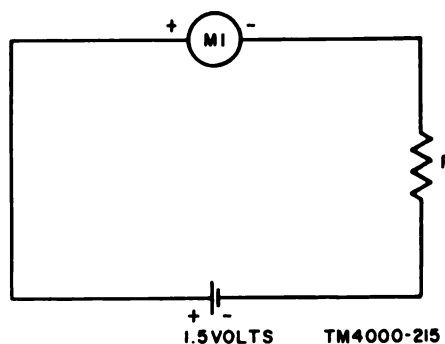
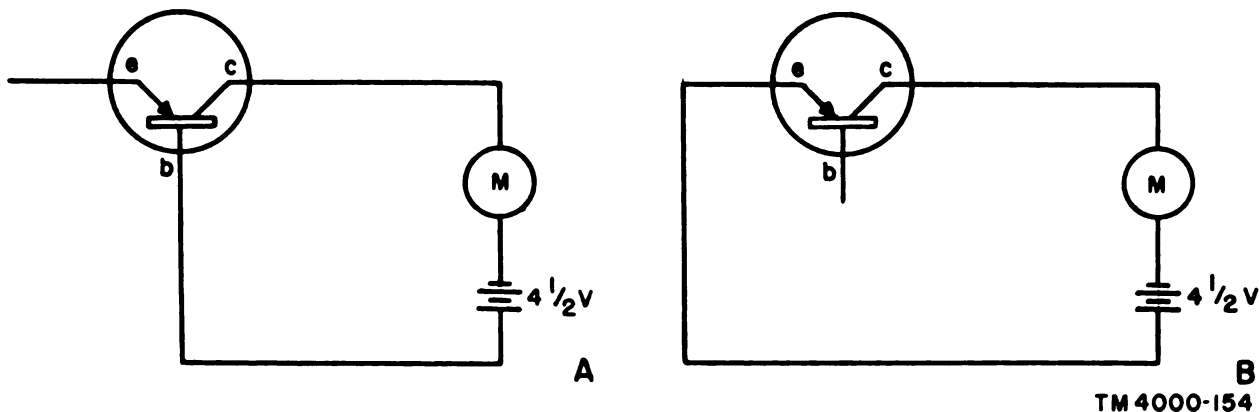
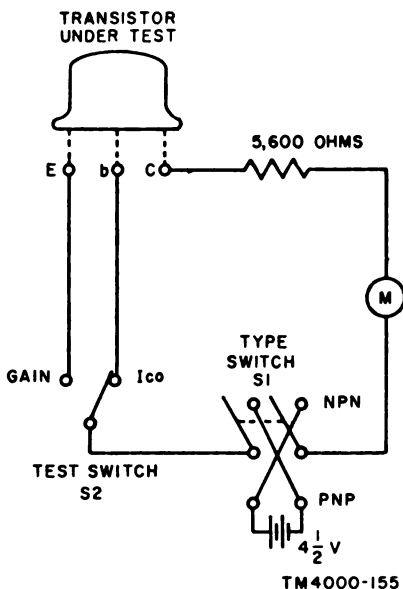

Figure 111. Meter test setup.
Figure 118. Testing transistor characteristics.
Figure 119. Field test circuit.
f. Indicating Meters. The indicating meters used in radiac sets are usually microammeters with 20 to 50 microampere (μa) full-scale deflection. Because of the low permissible current, the continuity of these meters cannot be tested with an ohmmeter; the meter movement would be burned out. Refer to the circuit shown in figure 111. Find the value of resistor R by dividing 1.5 volts by $\frac{1}{2}$ the full-scale deflection current of the meter to be tested. For example, for a $20\text{-}\mu\text{a}$ meter the value of $R = 1.5/10 \times 10^{-6} = 1.5 \times 10^5$ or 150,000 ohms. For a $50\text{-}\mu\text{a}$ meter the value of R should be 60,000 ohms. When used in such a circuit, a good meter will
- (1) To obtain an indication of the I_{co} of a PNP transistor, connect the meter and battery to the collector-base circuit with the emitter circuit open (A, fig. 118). The meter will indicate the I_{co} which should be as stated in b(2) below.
- (2) To obtain an indication of the current gain of a PNP transistor, connect the battery and meter to the emitter-collector circuit with the base circuit open (B, fig. 118). The meter should indicate a current from 20 to 40 times greater than I_{co} obtained in (1) above.
- (3) To obtain these readings for NPN transistors, reconnect the battery so as to reverse its polarity in the circuit.
b. If parts listed below are available or obtainable, the circuit shown in figure 111 can be used to perform both tests outlined in a above plus the test used to determine the type of transistor outlined in paragraph 321a(3). After constructing the tester, label the switches and switch positions as shown in figure 119.
- (1) Set the meter to the 2.5 ma current scale. Set test switch, S2, to the I_{co} position and insert the transistor into the socket (or connect the transistor leads to the proper terminals as shown in (fig. 119)).
- (2) Set type switch, S1, to the position (NPN or PNP) that correspond to the type of transistor under test and note the reading on the meter. If the meter reading is above .250 ma (except for power transistors), the transistor is considered defective. If the meter indicates a current of less than .250 ma, set the meter to the 250 microampere current scale and note the